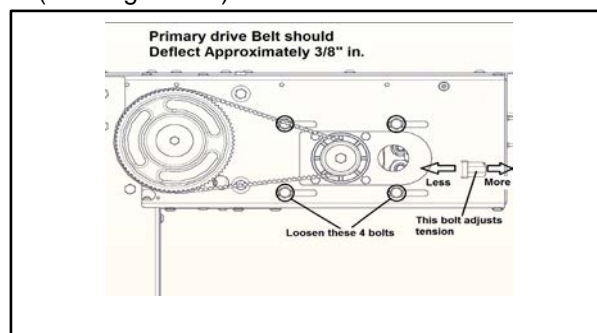

Figure 42
4. Adjust the primary drive belt tension by sliding the drive motor assembly towards or away from the wall to decrease or increase the belt tension. (See Figure 42.)